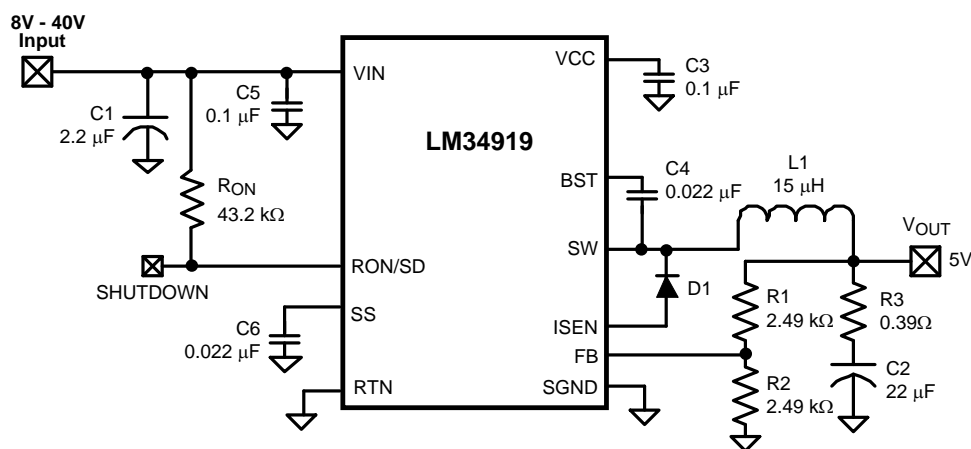
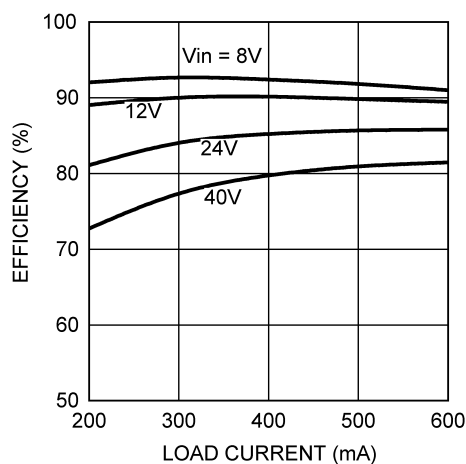
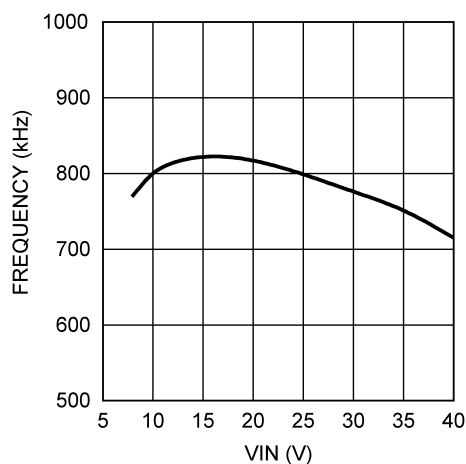
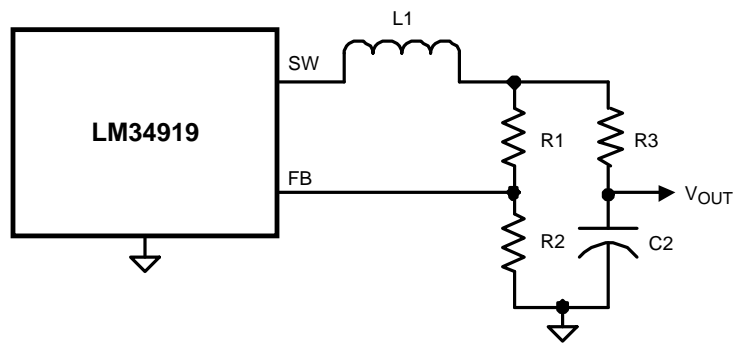

Figure 15. Example Circuit
Figure 16. Efficiency vs. Load Current and  $V_{IN}$  (Circuit of Figure 15)
Figure 17. Frequency vs.  $V_{IN}$  (Circuit of Figure 15)
Figure 20. Alternate Minimum Output Ripple Configuration
The final circuit is shown in Figure 15, and its performance is shown in Figure 16 and Figure 17. Current limit measured approximately 650 mA at 8V, and 740 mA at 40V.
**c) Alternate minimum ripple configuration:** The circuit in Figure 20 is the same as that in Figure 15, except the output voltage is taken from the junction of R3 and C2. The ripple at VOUT is determined by the inductor's ripple current and C2's characteristics. However, R3 slightly degrades the load regulation. This circuit may be suitable if the load current is fairly constant.